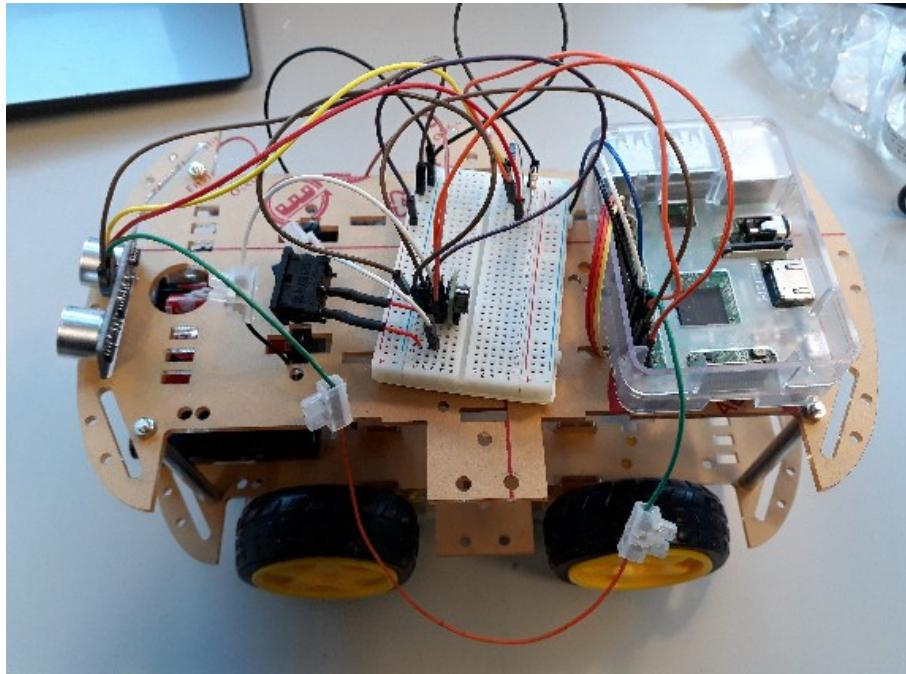
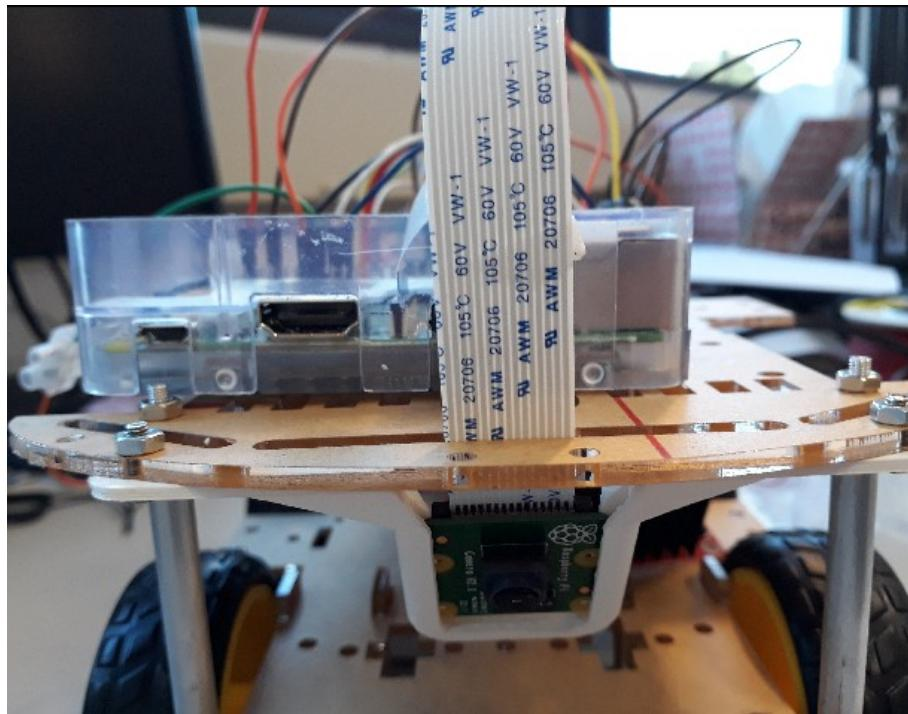

Figure 29: Image of how the buggy should look once fully wired.
Figure 31: Camera board in the mount, attached to the underside of the top plate
Step 10: With the pi camera connected, you can now place it inside the camera mount as is shown in figure 31. The camera mount can then be attached to the raspberry pi using the M3 bolts and nuts, as can be seen in figures 29 and 30.